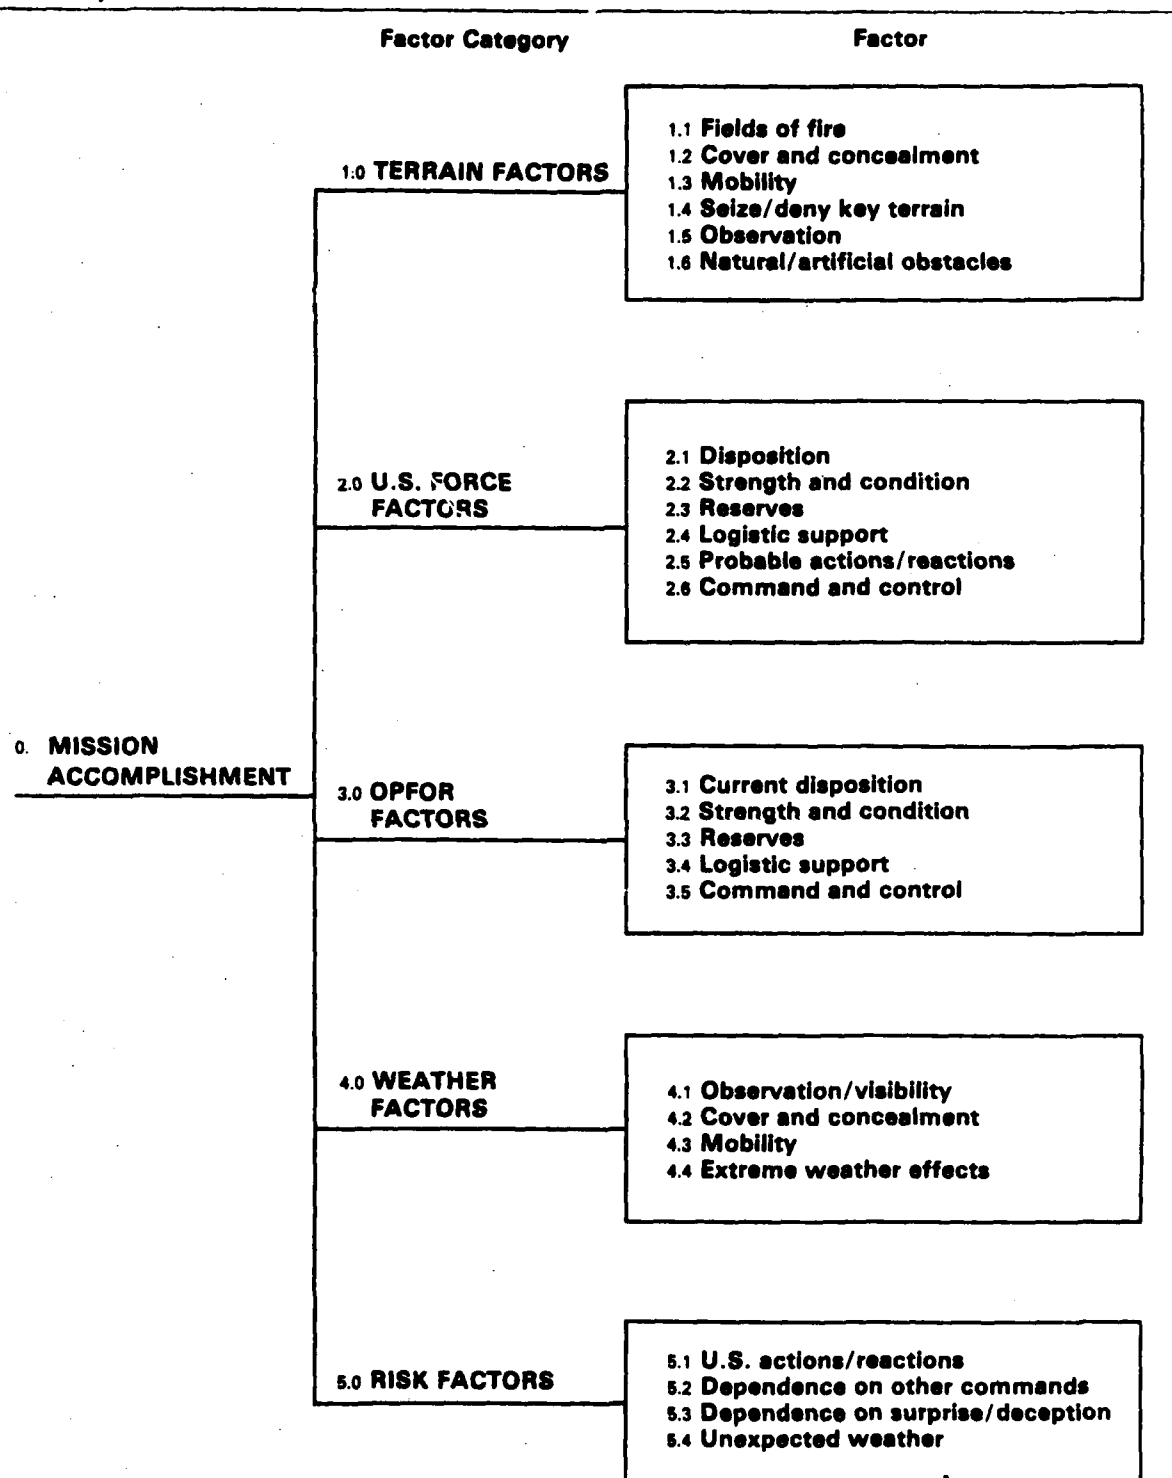

Figure 2. Hierarchy of factors.
The ENCOA aid is based on the simple but well-established procedures of multiattribute utility assessment. These procedures are based on the assumption that it is easier to break a problem down into its component parts, solve the component problems, and then aggregate back to the original problem. The ENCOA aid breaks down the overall problem of assessing the relative likelihood of enemy courses of action into a series of steps (see Figure 1). The steps require an analyst to evaluate possible enemy courses of action on 25 component factors, which are organized into five mutually exclusive categories, as shown in Figures 2 and 3. These component evaluations are then combined to produce an assessment of the overall relative likelihood of each enemy course of action. This method allows analysts to evaluate information logically one factor at a time, thus decreasing the memory load and ensuring that all relevant information is considered.
Figure 1 outlines the steps for using the ENCOA aid. First, the analyst must define and describe the reasonable courses of action (or avenues of approach, corridors of mobility, etc.) that the enemy may pursue. These should be defined such that the enemy can pursue only one avenue at a time. In step 2, the information on the factors listed in Figure 2 needs to be gathered or be readily available. At this point, the analyst is ready to evaluate the information numerically and to determine the relative likelihood of each course of action defined in the first step. In step 3, the numerical evaluation of the information is made by answering three questions: (1) How advantageous is each course of action on each factor for the enemy? (2) How important are the factors within each category, e.g., Fields of Fire within the Terrain category? and (3) How important is each category to the overall success of the enemy mission? In step 4, the computer calculates an overall score for each course of action; the score represents the relative desirability of that course of action for the accomplishment of the enemy's mission. In step 5, the relative probability of the enemy pursuing each course of action is inferred from the overall scores calculated in step 4.